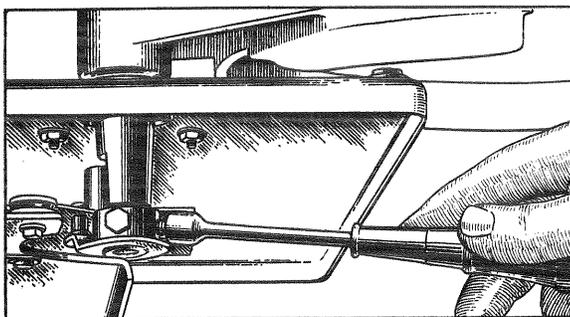

Figure 9—Magazine adjustments
- (b) Improper setting of magazine. The horizontal swing of the magazine should be so adjusted when the mechanism is out of cycle that the outer surface at its nearest point to the nearest side of the turntable spindle is $5\frac{1}{32}$ ". This can be done by loosening the two screws as shown in Figure 9, moving the magazine to its correct position and retightening the screws.
- (b) Loosen the two set screws and remove the magazine lever Figure 9.